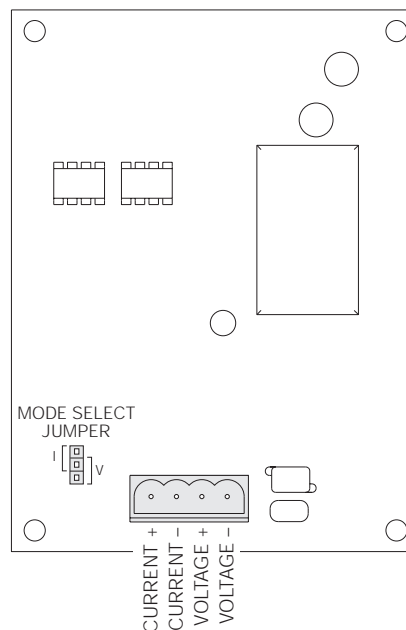

Figure 3. Analog Output Card
6. Set the mode select jumper (see Figure 3) for voltage or current output.